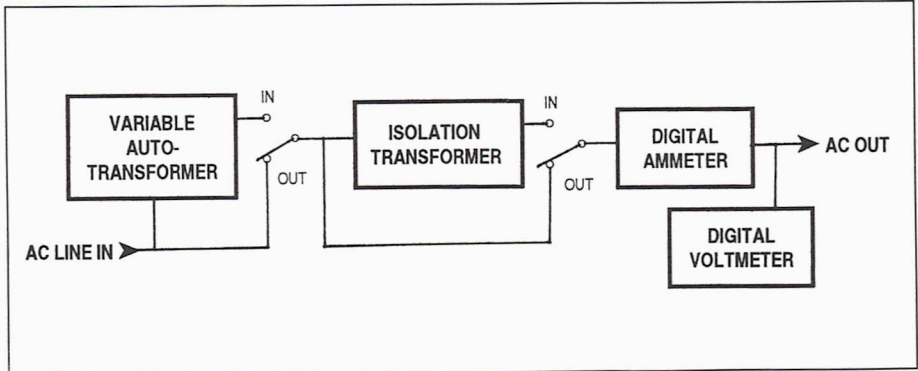

Figure 2. A simplified block diagram depicting the basic operation of the control box.
As the simplified block diagram in Figure 2 shows, the variable autotransformer and the isolation transformer are switched separately. Thus, both the variable autotransformer and the isolation transformer can be (1) switched out of the circuit, (2) used in combination, or (3) either device can be used individually.